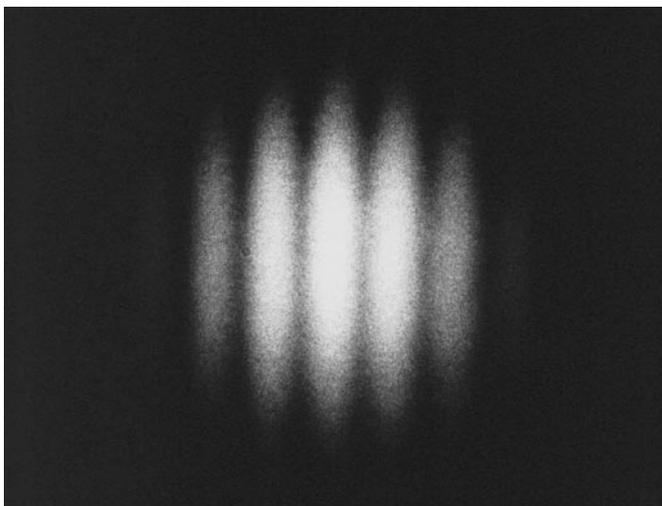

Fig. 1: Photograph of the interference pattern on the translucent screen.
- Fasten the translucent screen (g) in the base and set it up behind the laser optics base plate as shown in Fig. 1 so that the partial beam reflected by the planar mirror (e) strikes it in the center.
Fig. 1 on the title page shows a photograph of the interference pattern on the translucent screen.